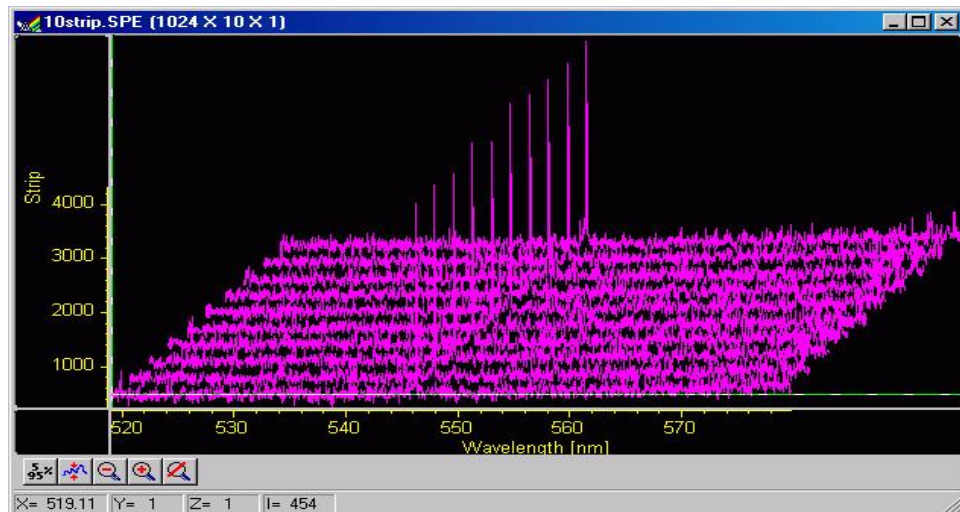

Figure 73. 3D Image display of 10 data strips
- If there are at least three data strips but less than eleven, the data will be plotted as a 3D Graph as shown in Figure 73.